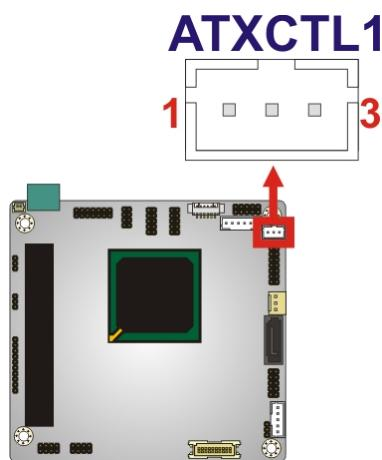

Figure 4-3: AT/ATX Power Mode Jumper Location
**Jumper Location:** See **Figure 4-3**